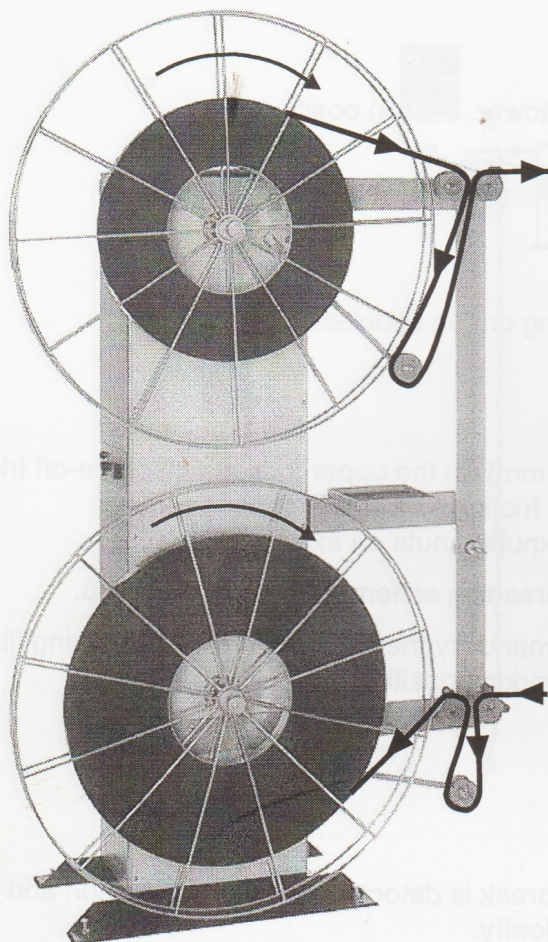

Figure 4-5 SPT 5000
5. Thread film, as you can see in threading scheme, figure 4-5 and 4-6.